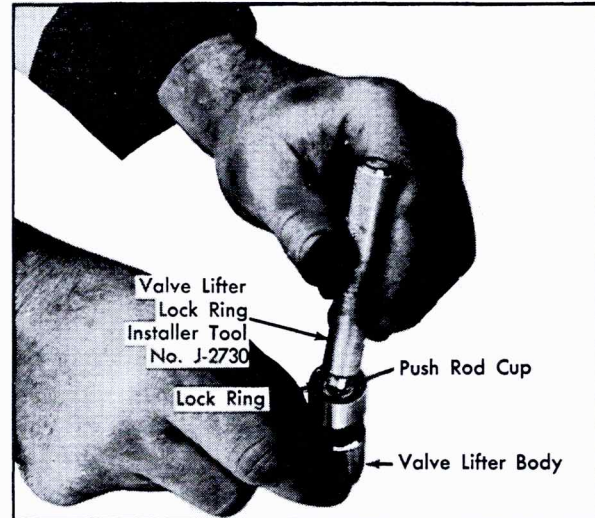

Fig. 6-111 Valve Lifter Lock Ring Installation
8. Press lock ring into groove with Valve Lifter Lock Ring Installer, J-2730, Fig. 6-111.